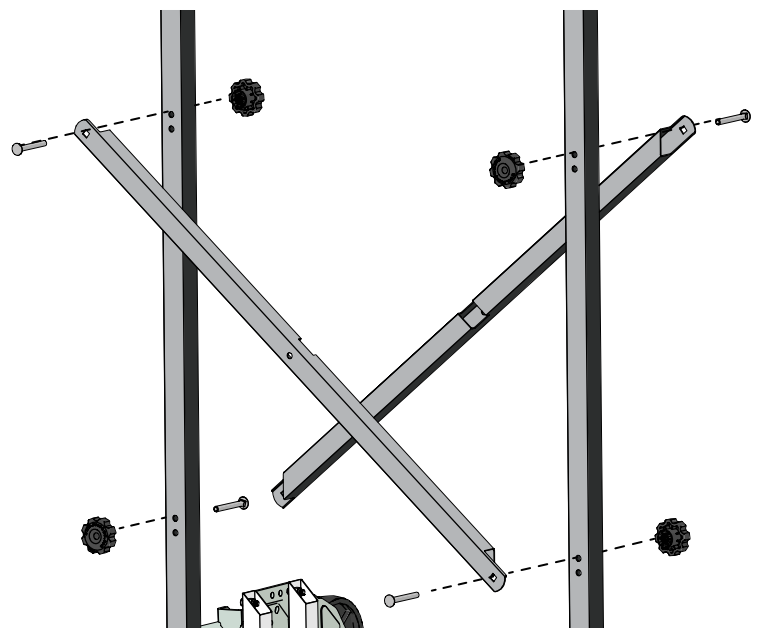

Fig. 16-3
- Insert the safety pin through a top mounting hole located at the top of the lower stabilizer post. The pin should pass through both upper and lower tubes. See Fig. 16-3.
- Insert the carriage bolt through the crossbar/stabilizer post as shown right in Fig 16-3.
3. Remove the crossbars from the stabilizer post. As shown in Fig.16-3.